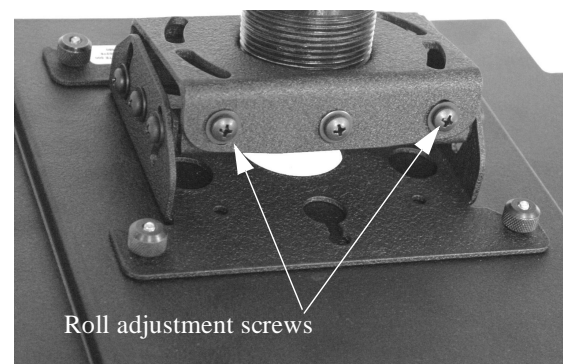

Figure 13. Roll Adjustment
1. Loosen two 10-24X3/8" roll adjustment screws on each side of the adjustment plate (see Figure 13).